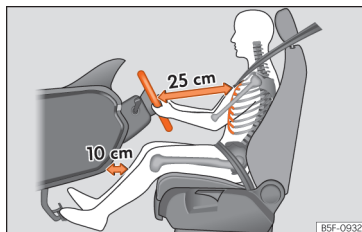
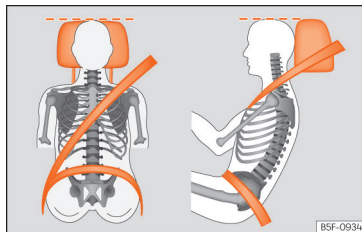

Fig. 65 The proper distance between driver and steering wheel.
Fig. 66 Correct belt web and head restraint positions
- Adjust the seat so that there is a distance of at least 25 cm between the steering wheel and your chest »» Fig. 65 and so that you can hold the steering wheel with both hands on the outside of the ring at the 9 o'clock and 3 o'clock positions with your arms slightly bent.
- Adjust the driver seat forwards or backwards so that you are able to press the accelerator, brake and clutch pedals to the floor with your knees slightly angled and the distance between your knees and the dash panel is at least 10 cm »» Fig. 65.
- Adjust the head restraint so that its upper edge is at the same level as the top of your head, or as close as possible to the same level as the top of your head and under no circumstances below eye level. Keep the back of your neck as close as possible to the head restraint »» Fig. 65 and »» Fig. 66.
Adjust the correct distance between the driver and the steering wheel »» Fig. 65 using the controls on the driver seat »»  page 14.